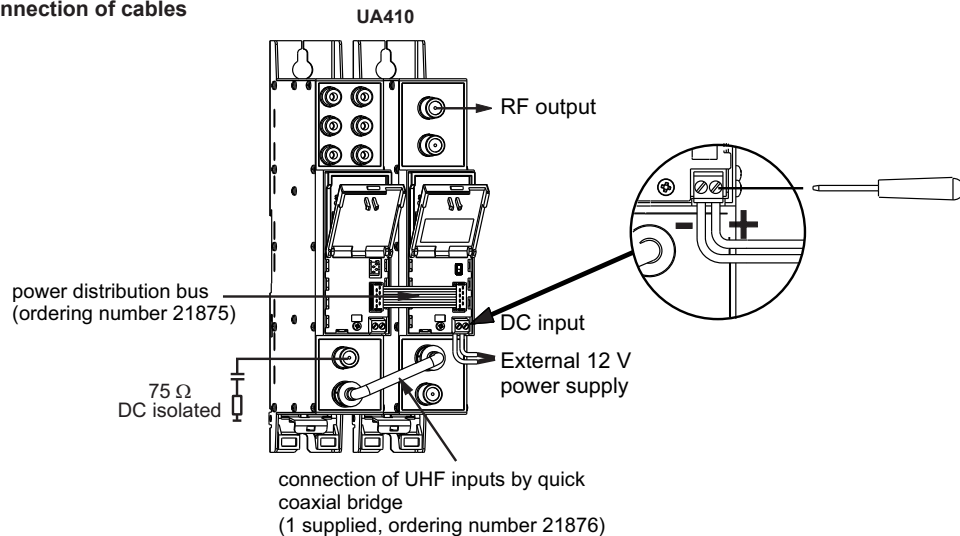

Figure 3. Installation example 2
3. Connections of the cables must be made according to the diagram in Figure 3. There are two ways for power supply connection: 12 V DC voltage can be supplied through DC input terminal or units of the system can be joined together using power distribution bus while only one of them connected to 12 V power supply unit.